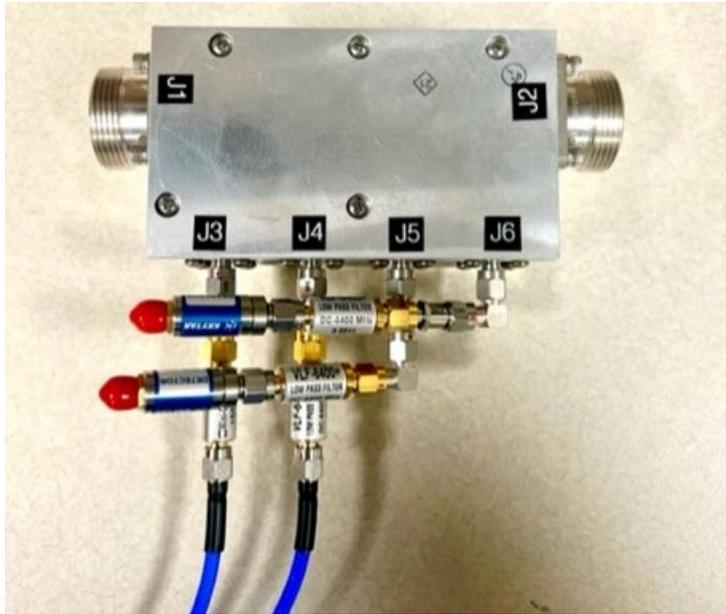

Figure 9
- Calibrate dual directional coupler with all attenuators, filters, detectors, and cables attached and in their proper location. See Figure 9.